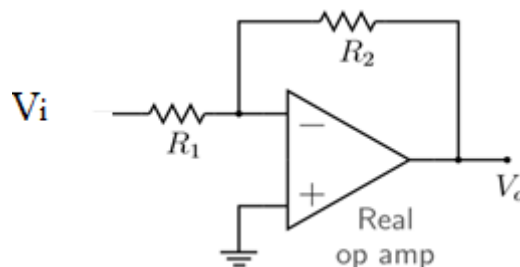

Figure 4: Bandwidth measurement
1. Connect the circuit of Figure 4.